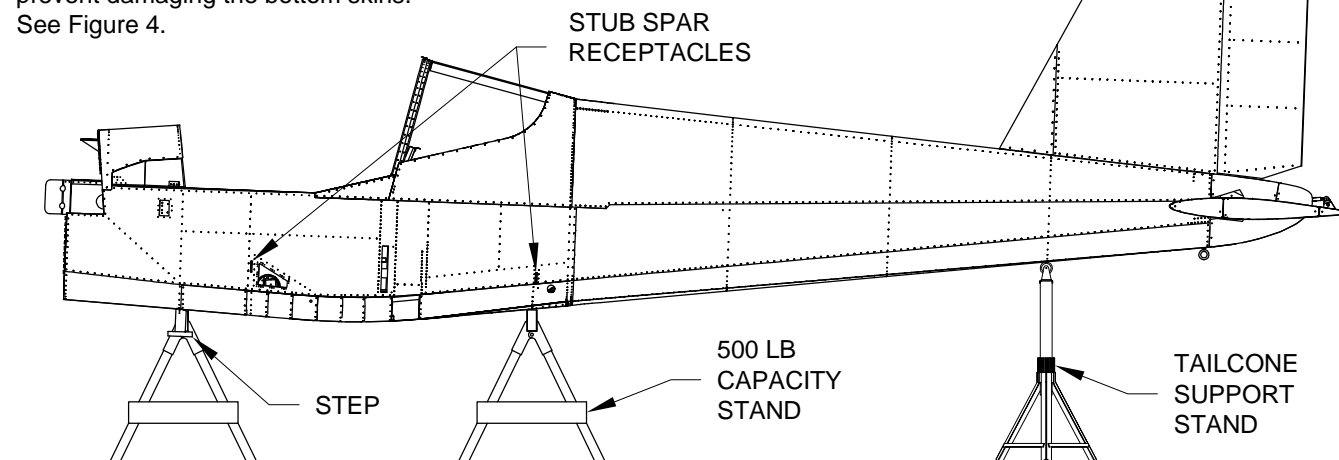

FIGURE 4: SUPPORTING THE FUSELAGE
Step 5: Obtain two padded stands approximately 28 inches wide and 25 inches tall and capable of supporting 500 pounds each. The padded surface must be at least 1 1/2 inches thick. A sturdy table or workbench may be used for this procedure, but stands may be easier to work around and can be used for future aircraft maintenance. See Figure 4.
Obtain two additional stands (preferably adjustable) to support the wing and tail section during installation and removal. The additional supports are required to prevent the fuselage from rolling or tipping during wing installation and removal and should be taller than the fuselage supports. See Figure 4 and Page 30-03 Figure 1.
Step 6: Position the fuselage on the padded supports so that the supports line up with the lateral rivet patterns on the bottom of the fuselage and check to make sure that the fuselage is stable on its supports. If using a table or workbench, add support and padding at the locations where the stands are positioned to stabilize the fuselage and prevent damaging the bottom skins. See Figure 4.